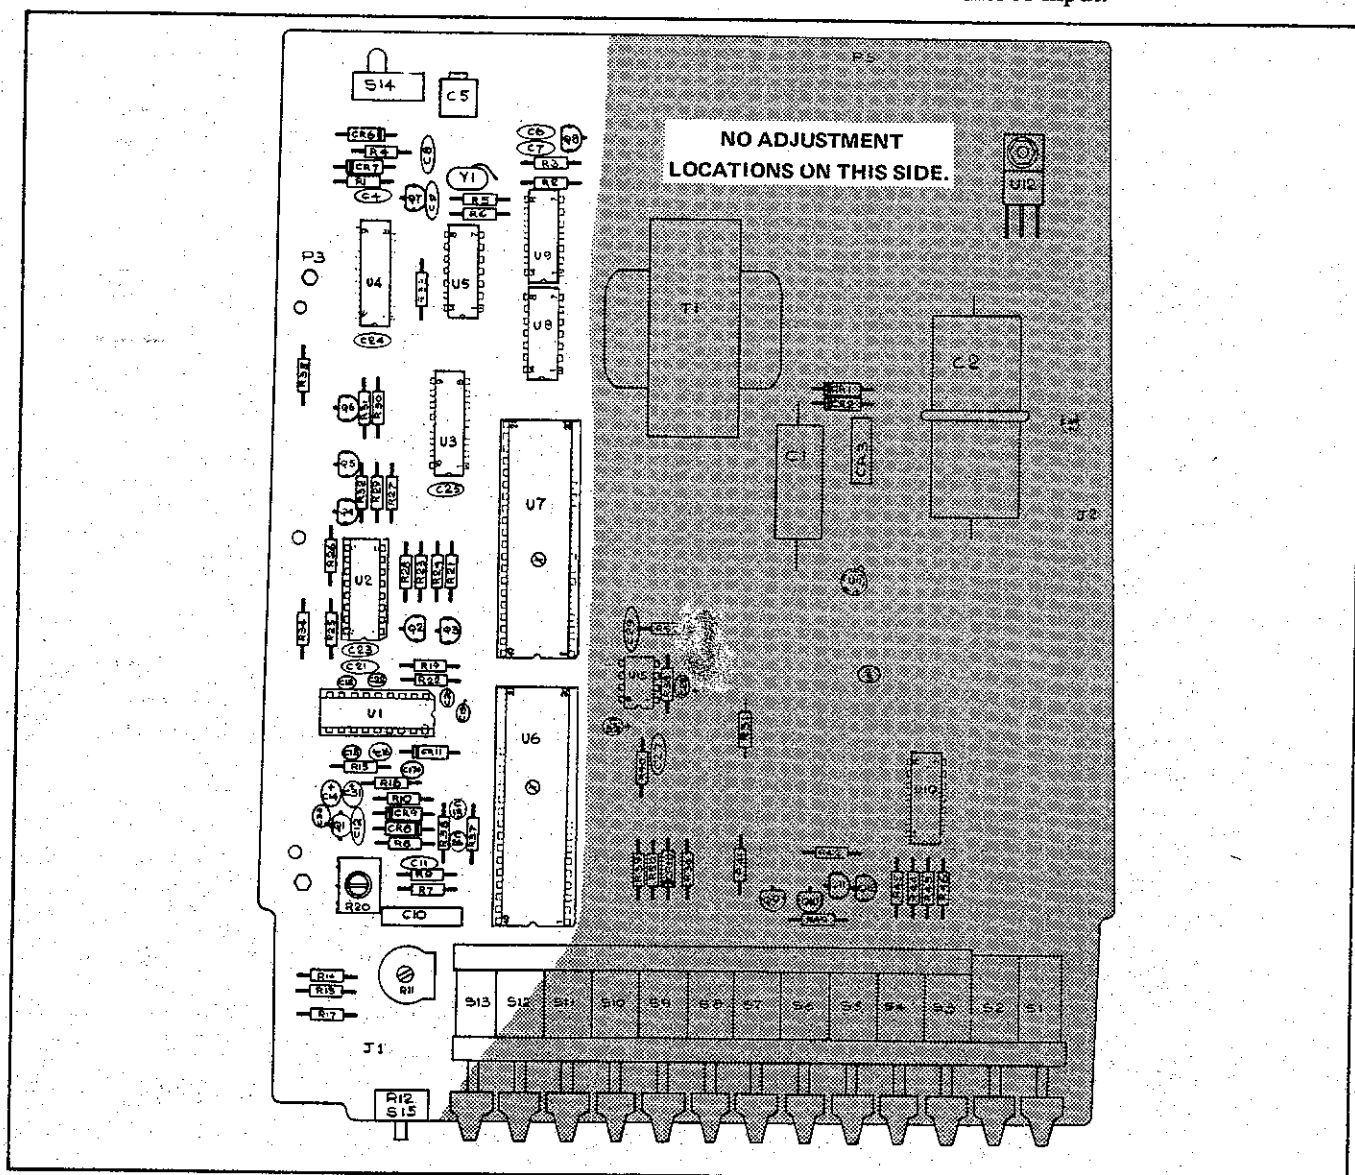

Figure 4-1. Main PCB (Top View)
6. Reduce the input level until the display becomes unstable and then try to adjust R11 (internal trigger level, see Figure 4-1) for the reference reading as noted in step-4.
- While observing the display adjust the time base oscillator control (C5) through the rear panel, see Figure 4-1, to obtain a reading of overflow 000000 ± 5 .